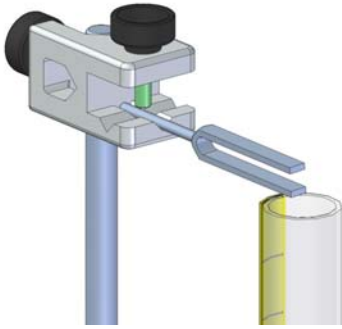
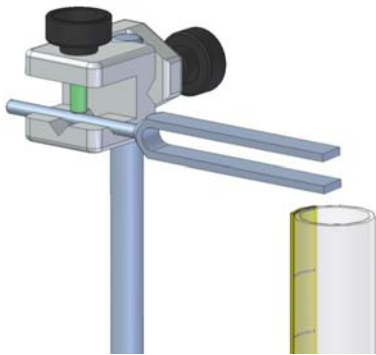

Fig. 2: Attachment of tuning forks with short shaft.
Fig. 3: Attachment of tuning forks with long shaft.
- Depending on the length of the tuning fork, clamp the universal clamp to the top of the stand rod as shown in Fig. 2 or Fig. 3.
- Clamp the tuning fork into the universal clamp, as shown in Fig. 2 or Fig. 3, in such a way that both ends of the tuning fork tines are positioned as close to the opening of the resonance tube as they can be.